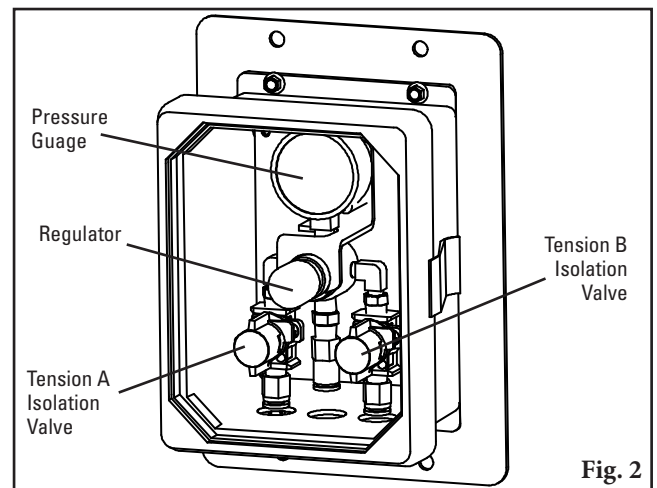

Fig. 2
3. **Remove Air Circuit pressure.** Pull out the PAT Control Panel regulator knob, refer Fig. 2 and turn counter-clockwise until stop, exhaust gases should be audible. Confirm that the pressure gauge reads 0 psi. Re-open the regulator to by turning the regulator knob clockwise so residue air in the line between the PAT Air Tank and PAT Control panel is drawn into the circuit. Re-close the regulator as before to exhaust residue air. Complete this 2-3 times to ensure that air pressure is exhausted from the system. Push in the regulator knob to isolate the regulator mechanism.